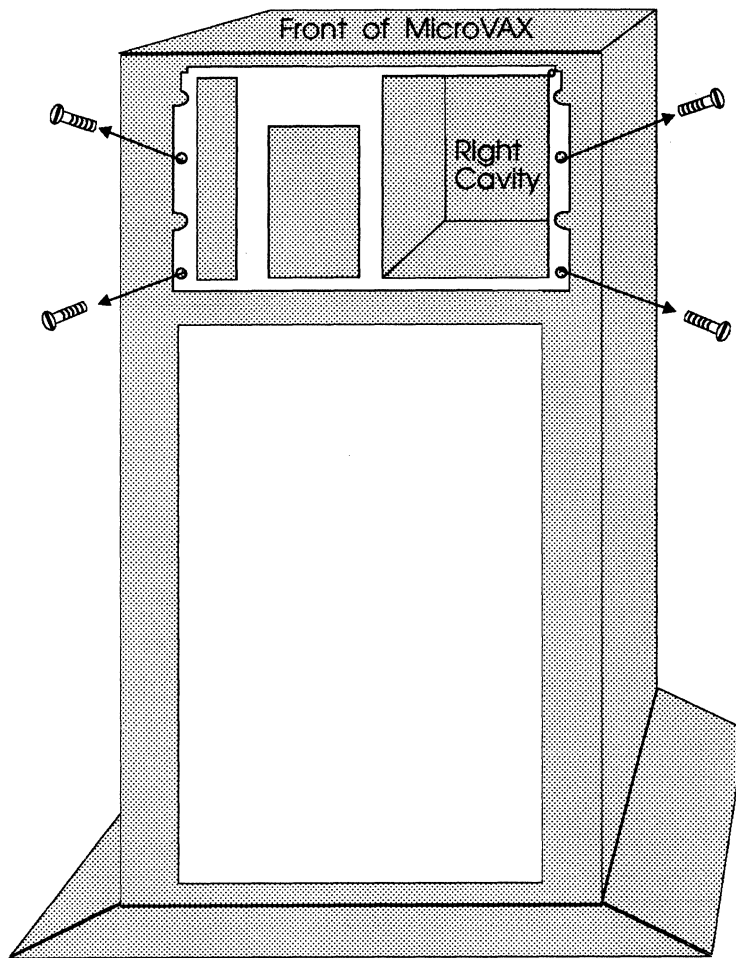

Figure 5-5: Removing the MicroVAX front panel
- 9 Remove the four screws in the four corners of the MicroVAX front panel. Remove the front panel of the MicroVAX. See Figure 5-5.